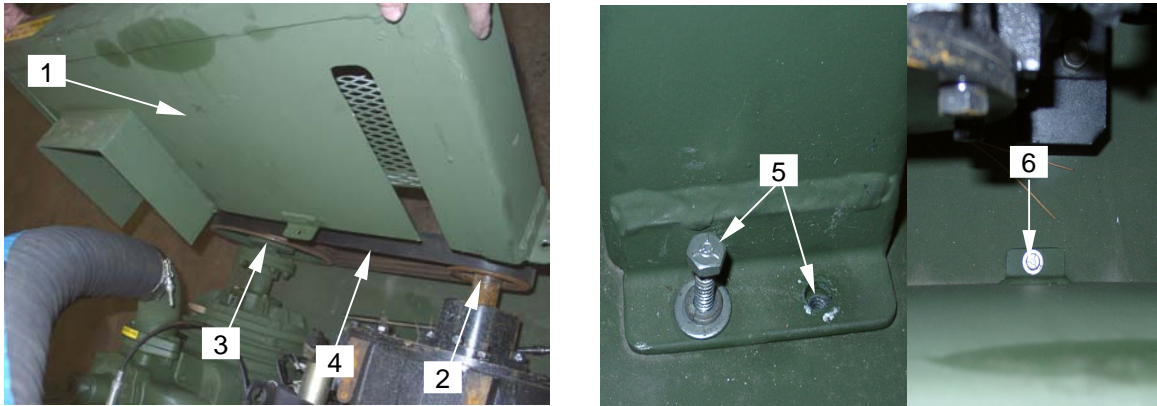

Figure 3. Installing Pulley Guard
4. Position new pulley guard (**figure 3, item 1**) over pulleys and belt for installation.
5. Install hex bolts and washers (**figure 3, item 5**) into the pulley guard brackets. Two are located at each end and one at the rear center (**figure 3, item 6**).